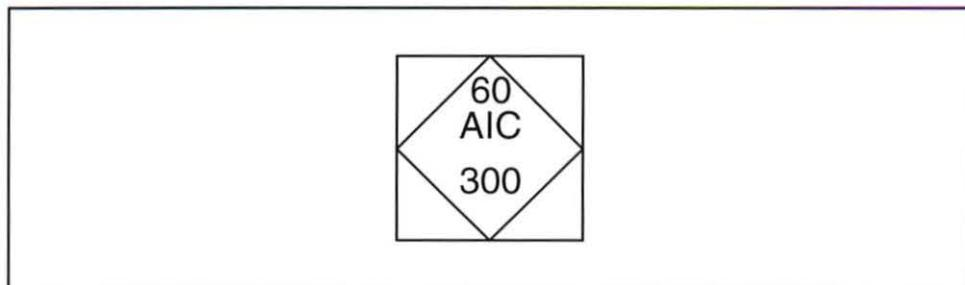

Figure 86. Instrument Tag
- 12. Perform the following substeps to interpret the information on the instrument tag in figure 86.
- A. Determine the type of device indicated by the tag in figure 86.
- B. Determine where the device is located, according to the tag in figure 86.
- D. Determine what the device is measuring, according to the tag in figure 86.
- E. Determine the loop in which the device is located, according to the tag in figure 86.
- F. Determine the area in which the device is located, according to the tag in figure 86.
- G. Determine the modifiers of the device tag in figure 86.